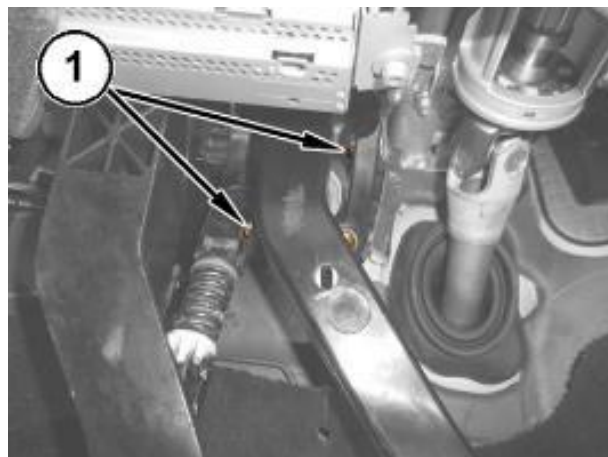

Figure 22 – ABS Module Nuts
36. Remove the nuts (1) attaching the ABS module to the pedal unit mounting (Figure 22).